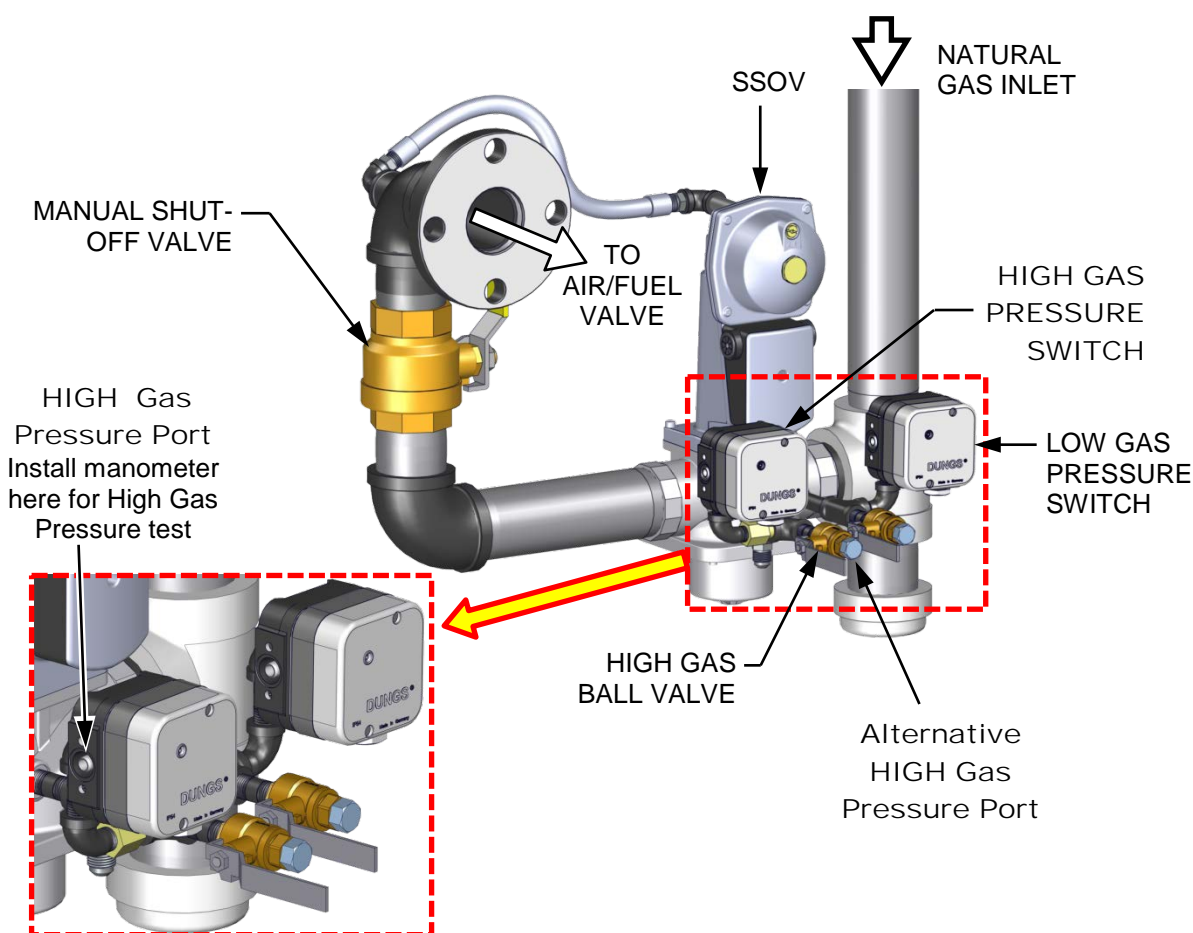

Figure 5-4: BMK 3000 HIGH Gas Pressure Test Components
To simulate a high gas pressure fault, refer to Figure 5-4 and perform the following steps:
1. Locate the port on the side of the High Gas Pressure switch (see Figure 5-4, below) and loosen the screw in the port a few turns to open it. Do not completely remove the screw. Alternatively, you can remove the 1/4 inch plug shown in Figure 5-4 and install a hose barb fitting in that location.
10. Press the **RESET** button on the High Gas Pressure switch (see Figure 5-4, below).